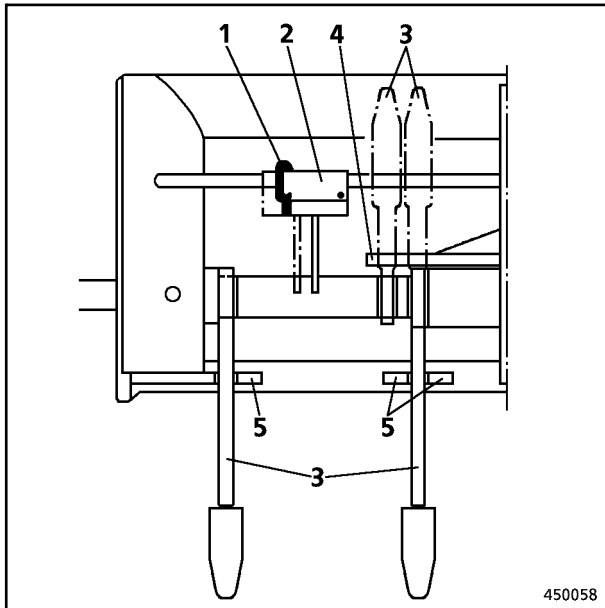

Fig. 1
For ripping operations, 1 to 4 teeth (3, Fig. 1) can be brought into ripping position.
- Pull out locking spring (1, Fig. 1).
- Remove spacer (2).
- Push ripper teeth (3) outwards over the retaining bar (4), fold downwards and press into the guide (5).
- Refit the spacer (2) and secure with locking spring (1).